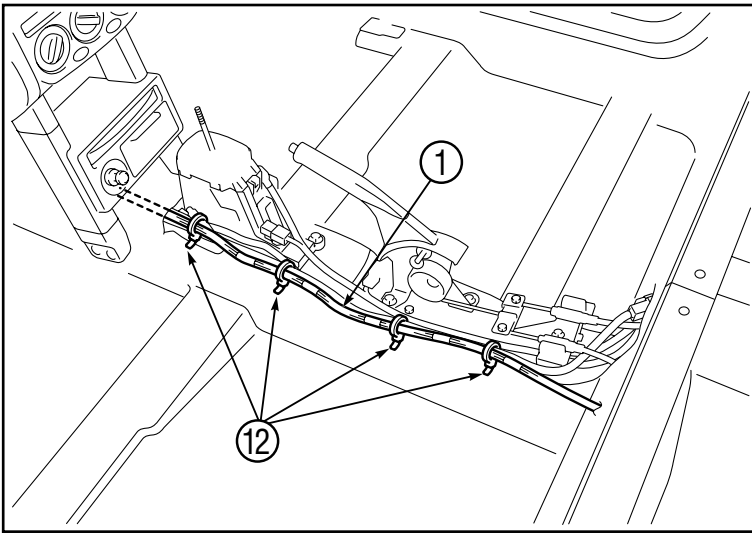

Figure 26
Route the TVSS wire harness (main) ① as shown in Fig. 26, and secure the TVSS wire harness (main) ① to the vehicle wire harness using the wire ties ⑫ (4x).